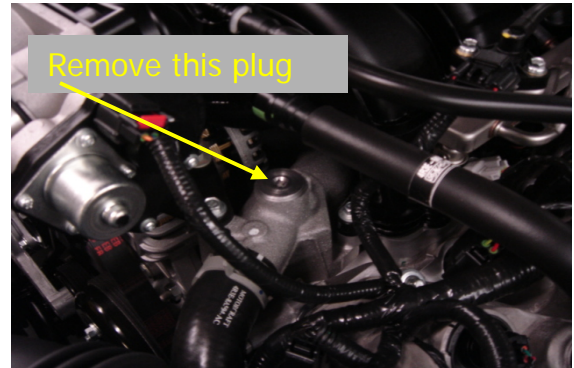

Fig.12
- c. Coolant Return: Remove the plug on the intake manifold water passage (Fig. 12) and install the supplied banjo fitting, crush washers, and bolt. Position as shown (Fig. 13) and torque to 67Nm (50lb-ft).